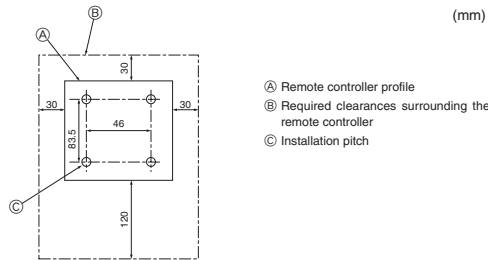

Fig. 6-2
6.2. Remote controller (Fig. 6-2)